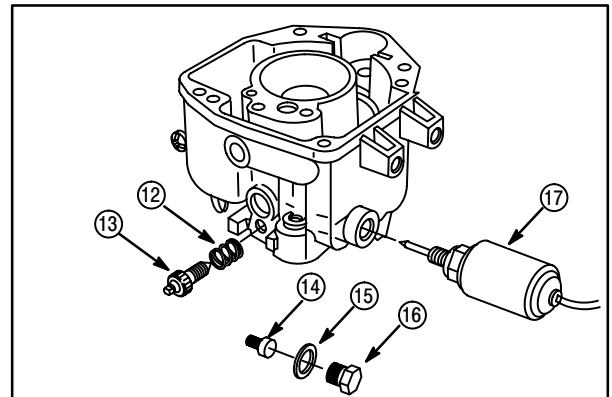

Fig. 89
11. Install fixed main jet (14) using Screwdriver #19062, **Fig. 89**.
12. Install washer (15) and plug (16) or anti-afterfire solenoid (17). Torque to **45 in. lbs. (5 Nm)**.
13. Install idle mixture screw (13) and spring (12).